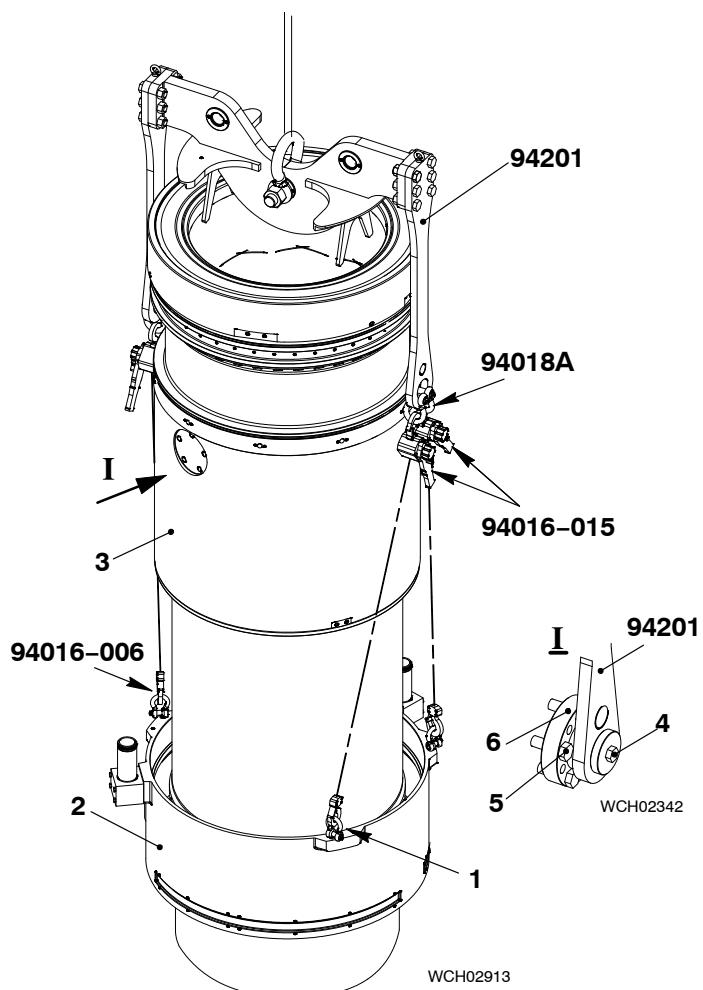

Fig. 5
- 2) Remove the two special screws (4, Fig. 5).
- 3) Lift the lifting tool (94201) sufficiently to get access to the flanges (6)
- 4) Remove the screws (5).
- 6) Attach the eye bolts (1) to the water guide jacket (2).
- 7) Attach the three manual ratchets (94016-006, 94016-015) to the three eye bolts (1) and the shackles (94018A) on the lifting tool (94201).